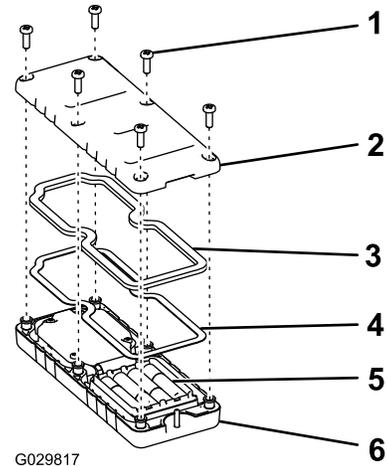

Figure 27
1. Remove the 6 screws from the back of the remote and remove the cover (Figure 27).
5. Replace the cover and secure it with the 6 screws removed previously (Figure 27) and torque them to 1.5 to 1.7 N·m (13 to 15 in-lb).